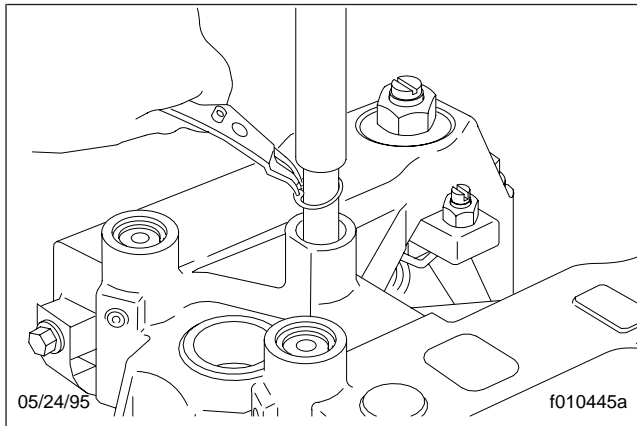

Fig. 1, Remove the Retaining Ring
2. Push down on the accumulator cover and remove the retaining ring. See Fig. 1.